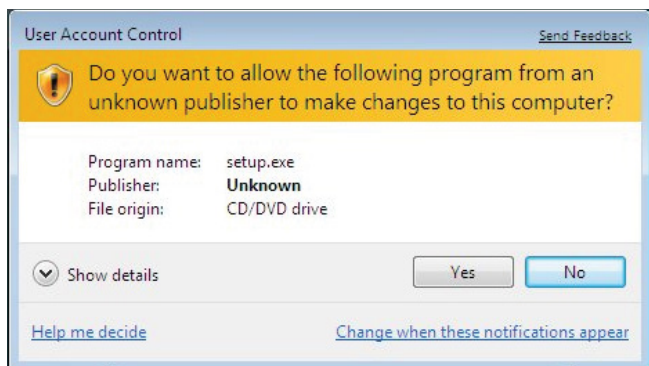

Figure 3. **User Account Control** Permission Dialog Box
3. A dialog box appears asking for permission to allow the program to make changes to the PC. Click **Yes** to proceed (see Figure 3).